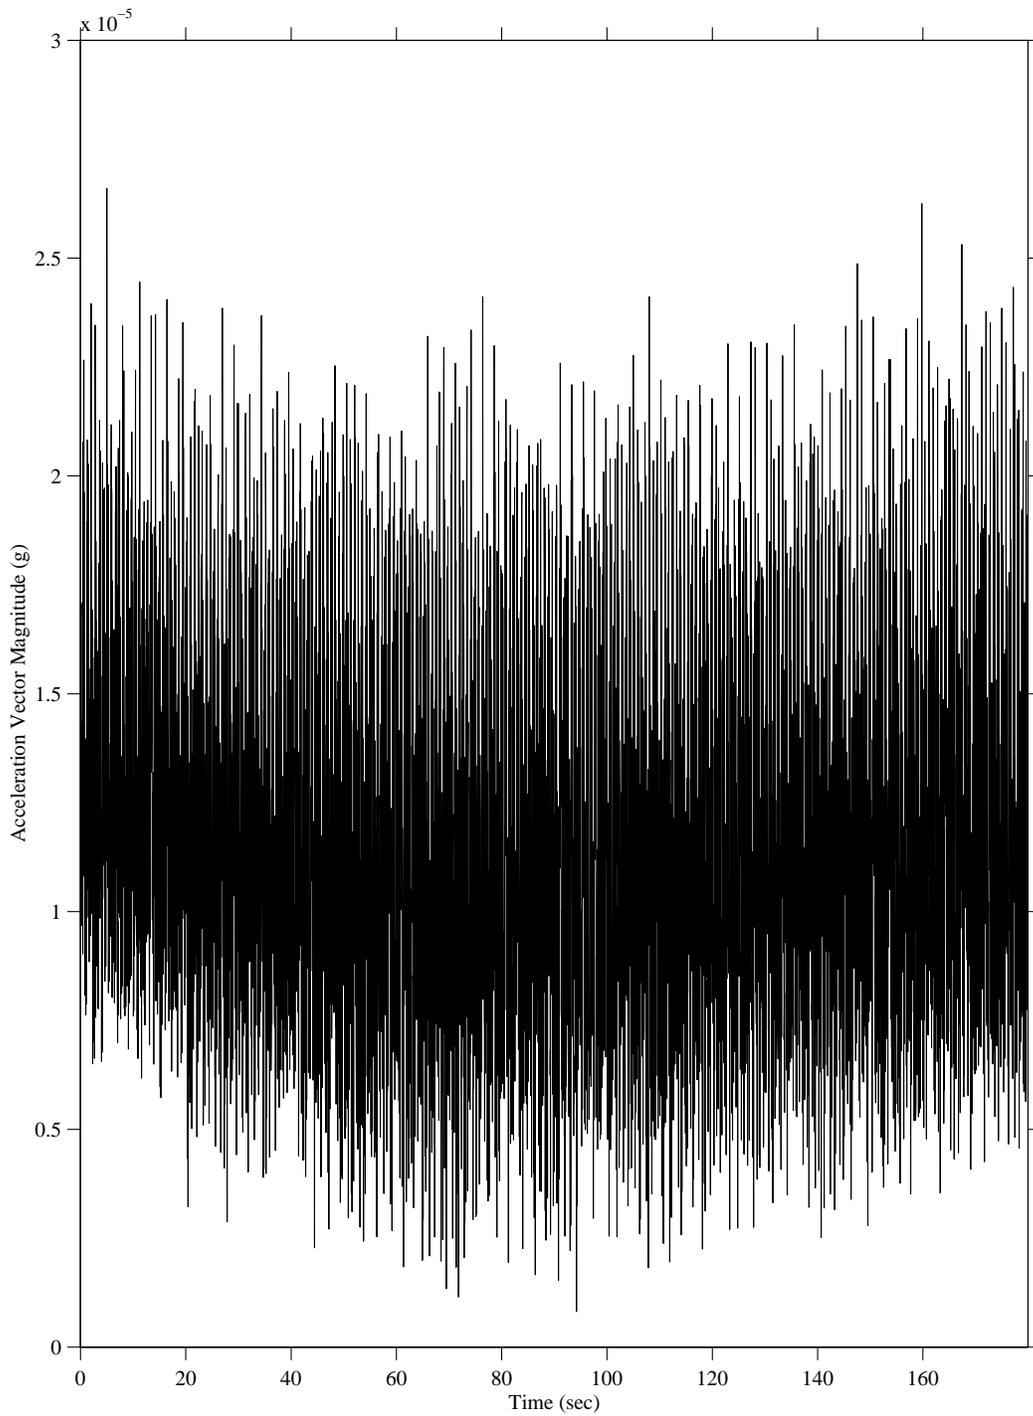

Figure 11-2
- **Figure 11-2 illustrates the acceleration vector magnitude for the time period when the sampling rate was 25 samples per second**